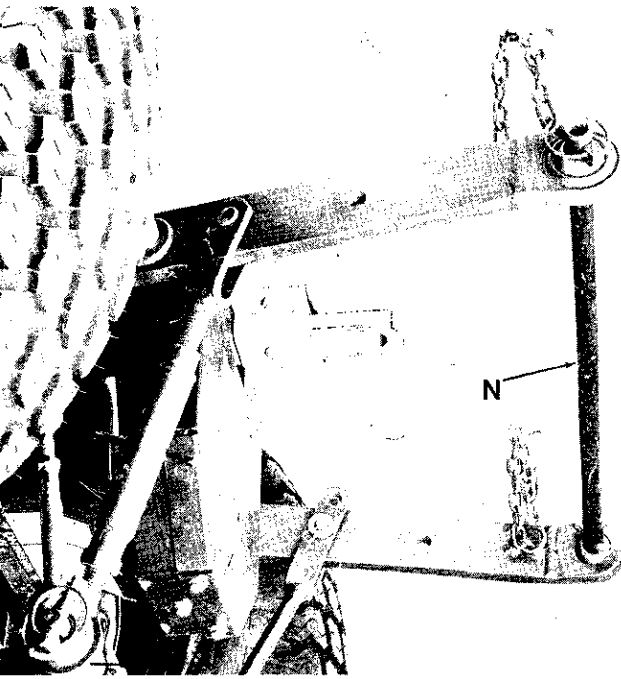

FIG. 18
1. Insert one end of three point hitch stabilizer tube (N) into one three point hitch lower lift arm, then insert opposite end of three point hitch stabilizer tube (N) into other three point hitch lower lift arm. (See Fig. 18)